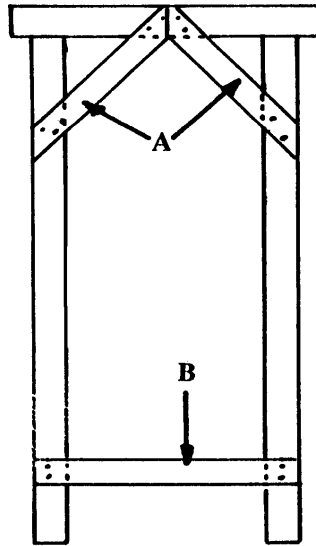

Fig. 9
31. Fig. 9 shows a door frame prepared for site delivery. Explain briefly the purpose of each of the temporary components A and B.